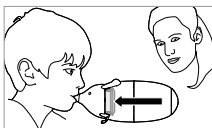

FIG. 8
- Pay attention to the movement of the slide ring during the inhalation (see Fig. 8).